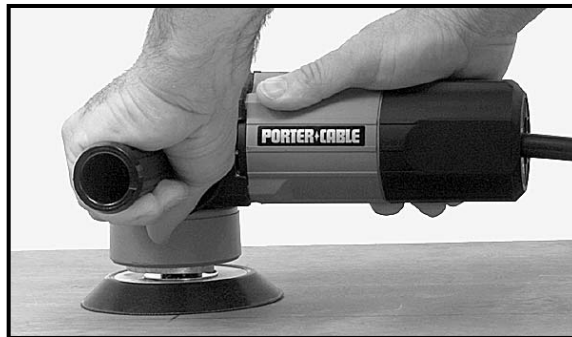

Fig. 5
3. Place sander to work (see Fig. 5) with abrasive disc resting FLAT on the work.